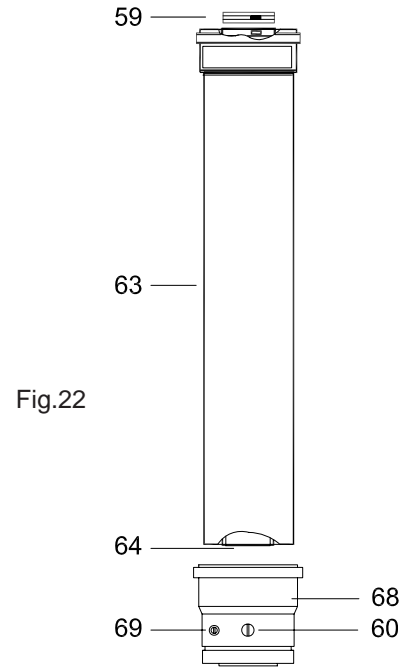

Fig.22
(fig. 22 item 66), and ensure that the gasket is correctly fitted.
**Important: Make sure that the inner 60 mm diameter of the straight flue header is inserted fully into the flue manifold, and the flue manifold rubber seal is correctly fitted. (Fig 22 item 65)**
Starting at the appliance end, assemble the extension duct sections, making each inner and outer (flue) joint by inserting the spigot end into the socket end of the next tube, making sure the seal rings are correctly located (fig. 22). Make sure that the entire flue is adequately supported. Use at least one bracket for each extension used.